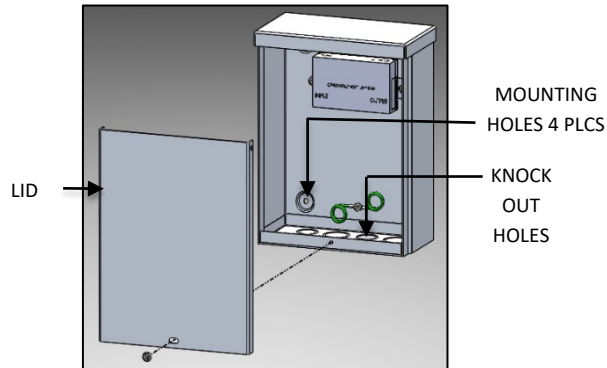
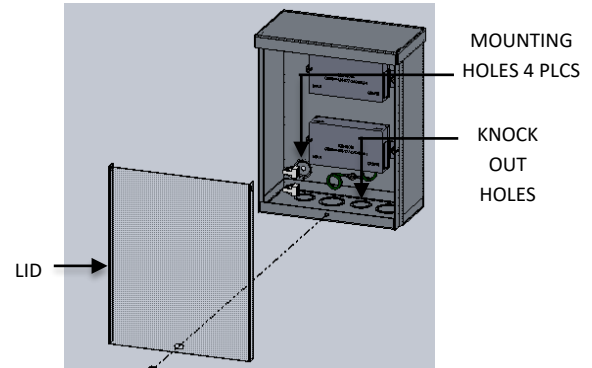

FIG. 8 – REMOTE DRIVER BOX
FIG. 9 – REMOTE DRIVER BOX
2. Remove the lid of the REMOTE DRIVER HOUSING as shown in FIG. 8 and FIG. 9 below.